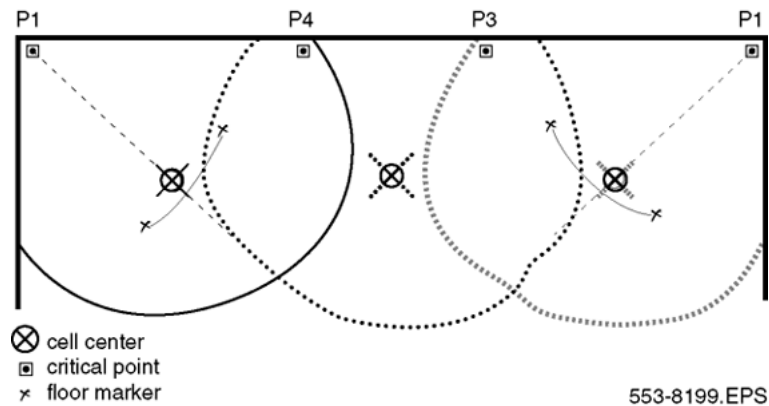

Figure 63: Multi cell distance using the single cell technique
16. Use the subsequent critical points to fill in the coverage area between the first two cells using the Single cell deployment on page 99. An example of this is shown in Figure 63: Multi cell distance using the single cell technique on page 104.